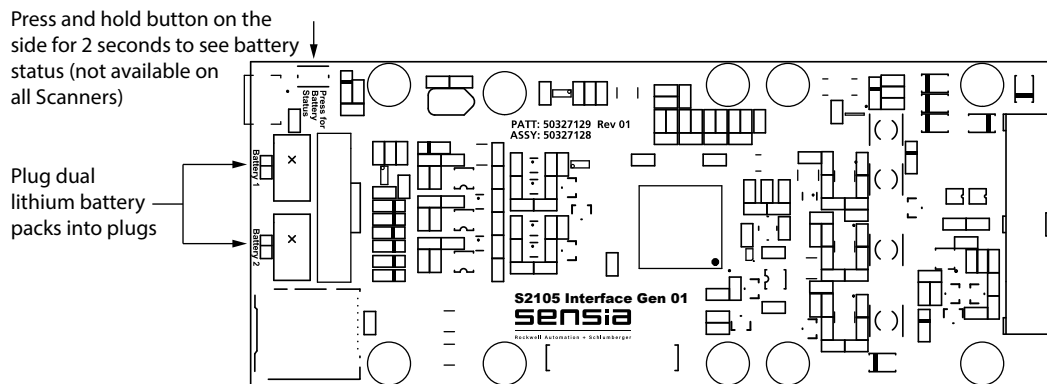

Figure 3.2 - Two lithium battery pack connections on the end of the main board ("Battery 1", "Battery 2")
- Connect one battery pack cable to "Battery 1", and the other to "Battery 2", shown in Figure 3.2.